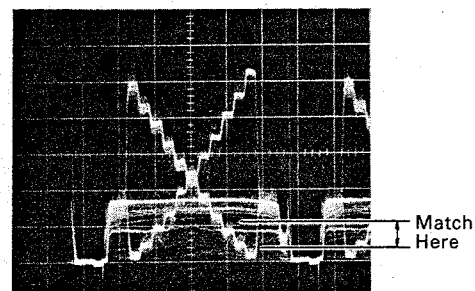

Fig. 6-4-25
- Next, adjust Y_L PEDESTAL VR306 so that the gray scale's 0~2nd step of Y_L signal matches that of B. signal. (Fig. 6-4-25)